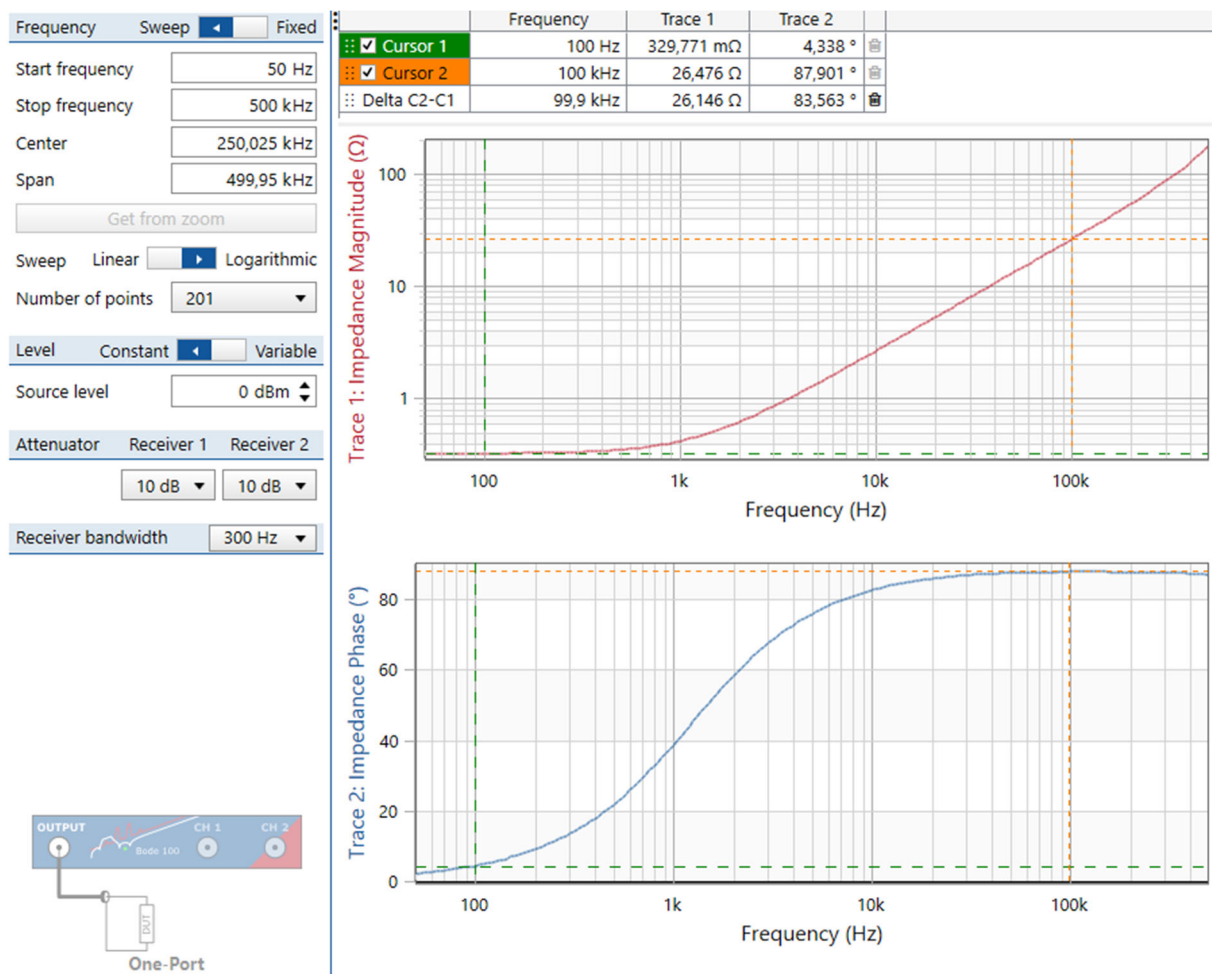

Fig. 3.2.2: *Bode100* One-Port Impedance measurement of both inductors: $(10+33)\mu\text{H}$
- In the Matlab listing below, replace values of Z_{L_abs} with measured impedance of Fig. 3.2.2 in the frequencies given above as vector f_L . Measure wire resistor R_w at $f=100$ Hz.
DCDCbuck board: no jumpers to coils: $L=43\mu\text{H}$ nominal, set jumper for $C=680\mu\text{F}$ nominal. Connect a BNC cable from Bode100 OUTPUT to an isolated DCDCbuck board's point A according to Fig. 3.0 and ground, as sketched in the lower left corner of Fig. 3.2.2(a).